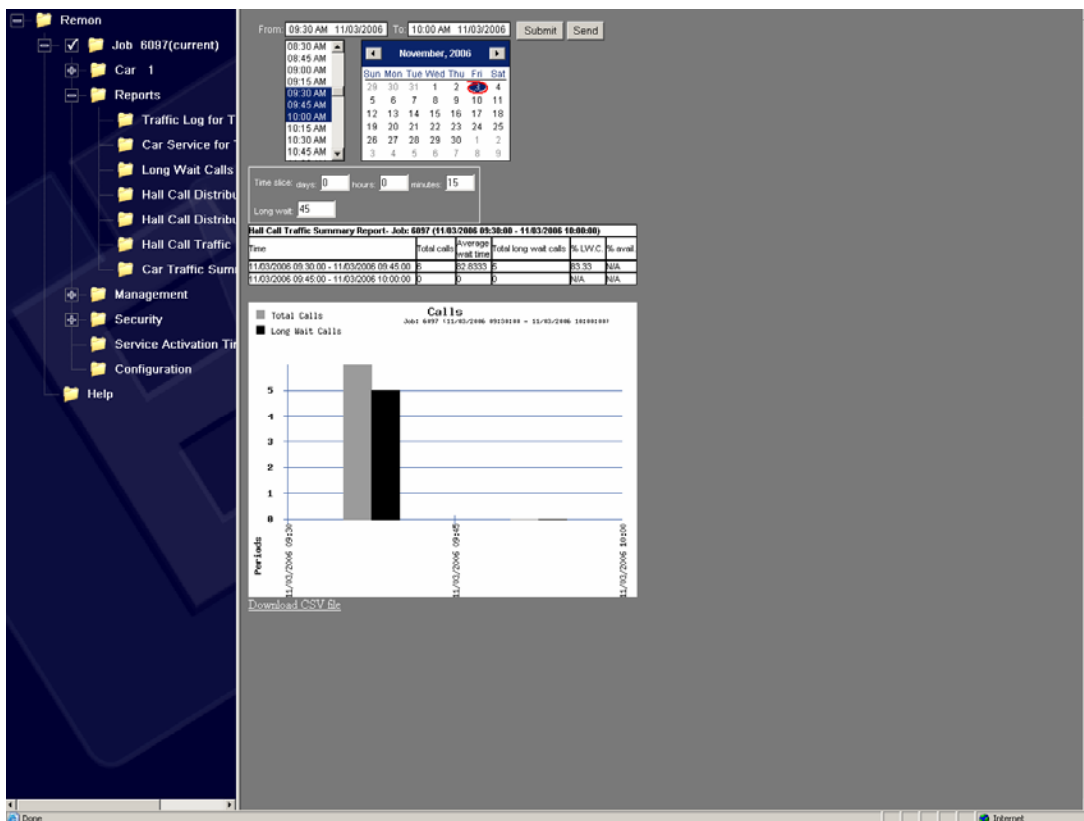

Figure 32. Hall Call Traffic Summary Report Screen
- Click “Submit” button to display the report in the data display area as shown in Figure 32. Hall Call Traffic Summary Report Screen. After receiving the report the user can adjust time range and resubmit his request. The report is redisplayed with different data corresponding to new time range. To provide reasonable system response and reasonable network load the data output is limited to 500 lines. If there are more than 500 lines in the report an information string (“More data is available”) is displayed in the last line of the list.